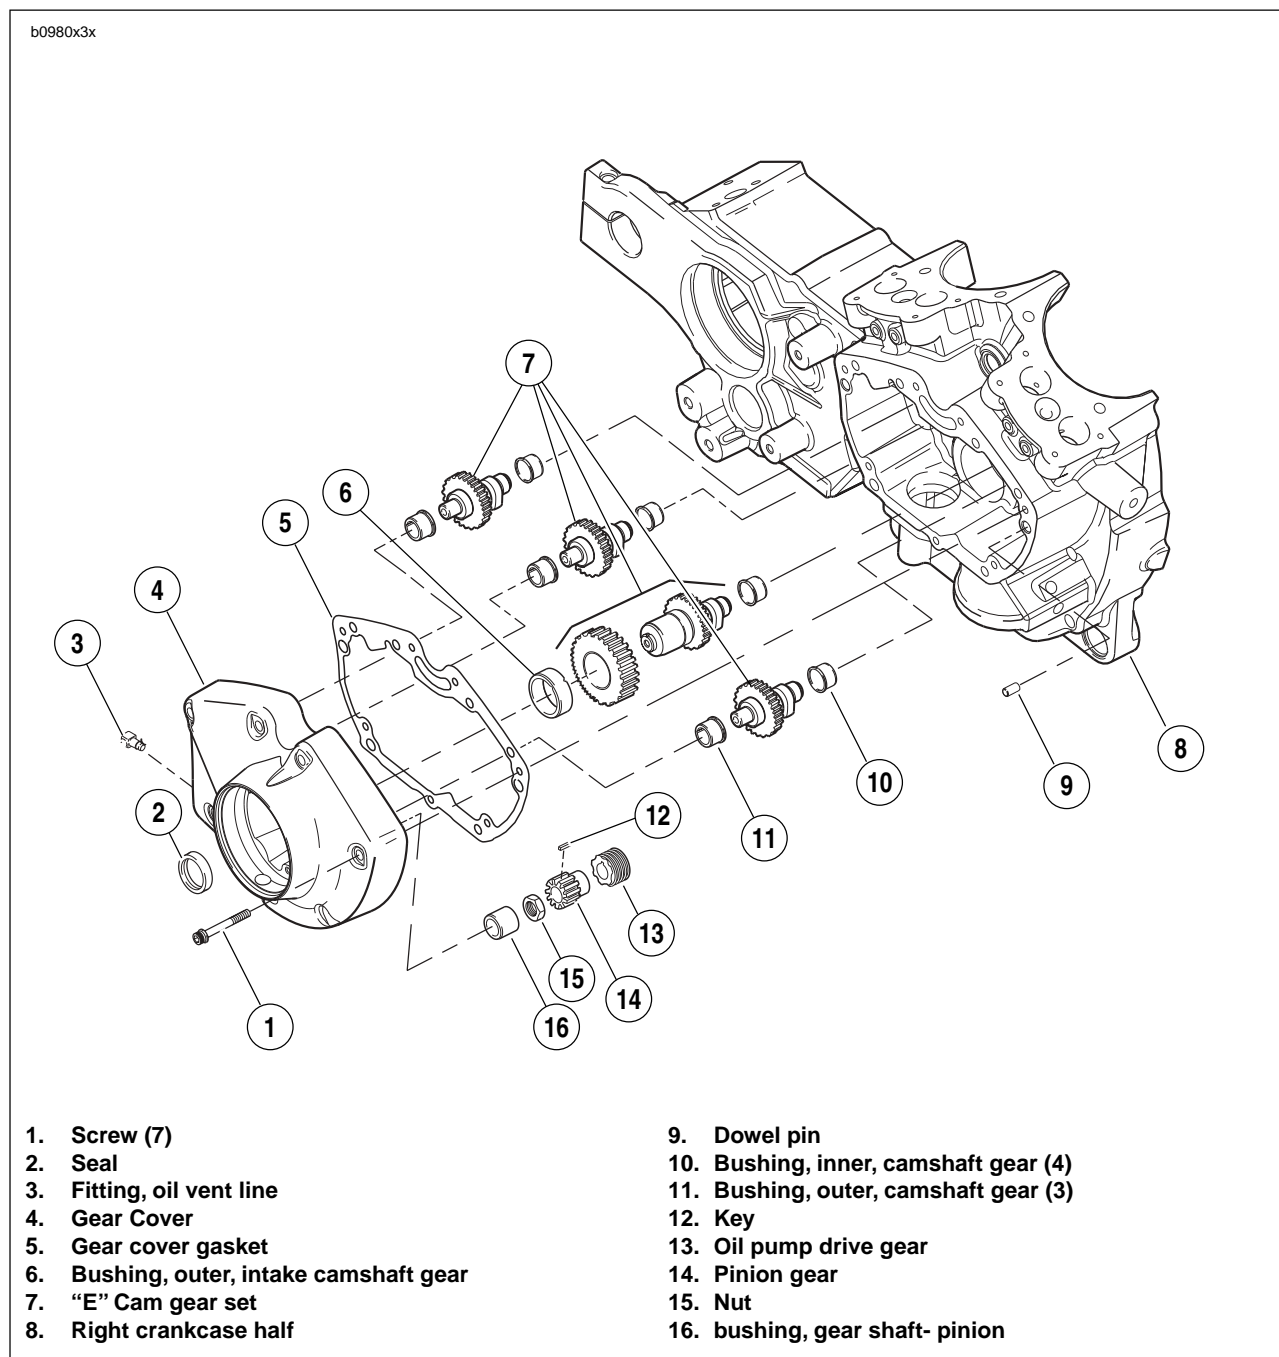

Figure 3-126. Gearcase Cover & Cam Assembly
1. See Figure 3-126. Thoroughly clean area around gearcase cover and tappets. Blow loose dirt from crankcase with compressed air.
2. See Figure 3-126. Install pinion nut.
3. See Figure 3-126. Liberally apply engine oil to bushings, shafts, and gears. Install all cam gears into bushings of right crankcase half, properly aligning timing marks of cam gears and pinion gear.
4. See Figure 3-126. Install a **new** seal and **new** dry gear-cover gasket on crankcase.